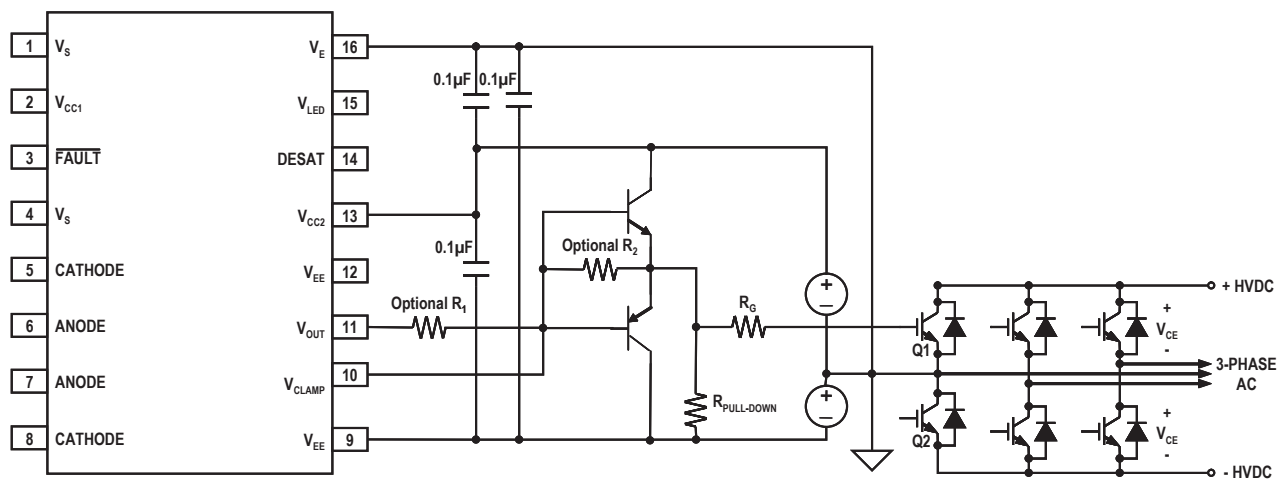

Figure 7a. Large IGBT Driver with Negative Gate Drive, External Buffer for High Current and Active Clamp as Secondary Gate Discharge
1. Use the clamp pin as a secondary gate discharge path (Figure 7a)